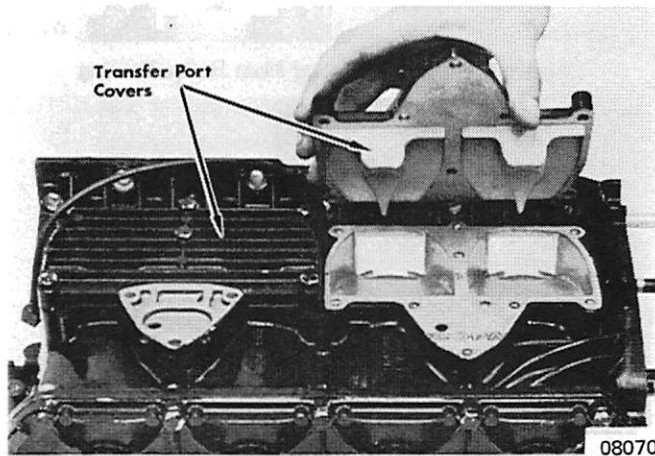

Figure 7. Removing Transfer Port Covers
7. Turn cylinder block and remove screws from transfer port covers, then remove covers. (Figure 7)